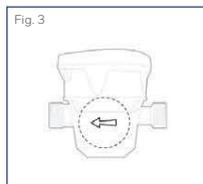

Fig. 3
2. Install the meter with the flow direction arrow pointing in the direction of flow (Fig. 3).